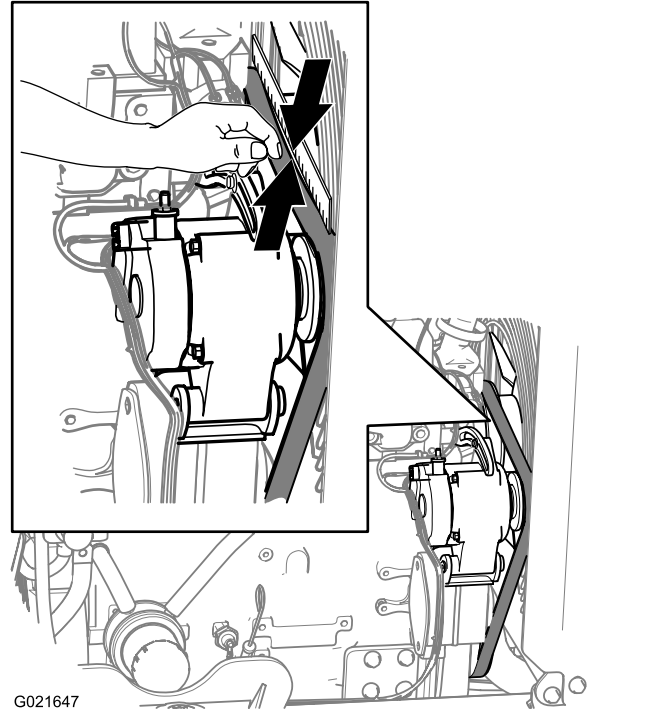

Figure 117
3. Inspect the belt for cuts, cracks, loose cords, grease, oil, twisting, or signs of abnormal wear (Figure 117).
3. Align a straight edge over the drive belt and across the pulleys as shown in Figure 117.
4. Press the belt down at the midway point between the fan pulley and the alternator pulley as shown in Figure 117.